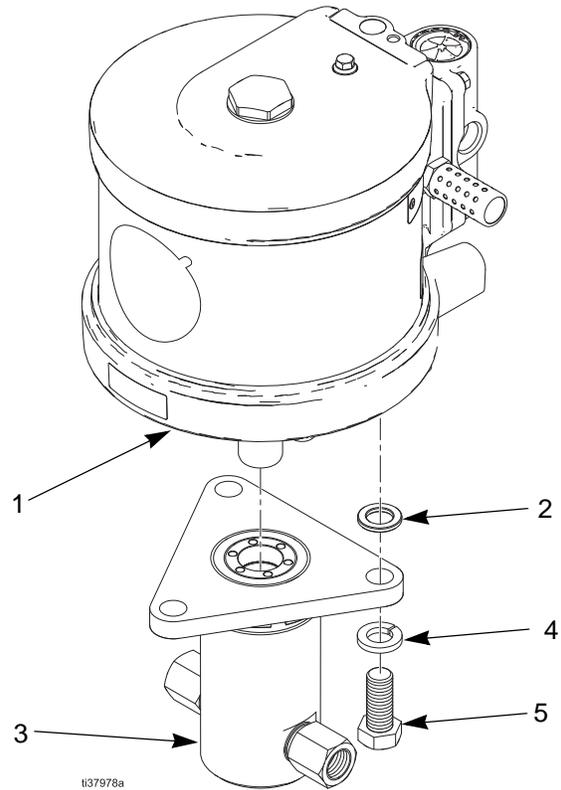
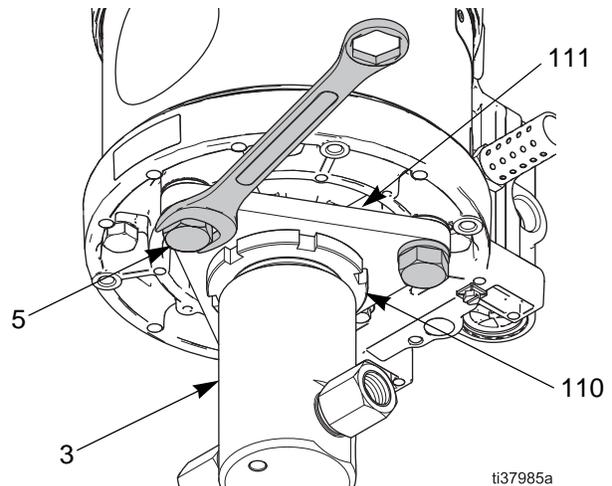

FIG. 4
FIG. 5
2. Install the screws (5), lock washers (4), and spacers (2), as shown in FIG. 4, and align with the holes in the bottom of the pump (1), as shown in FIG. 5.